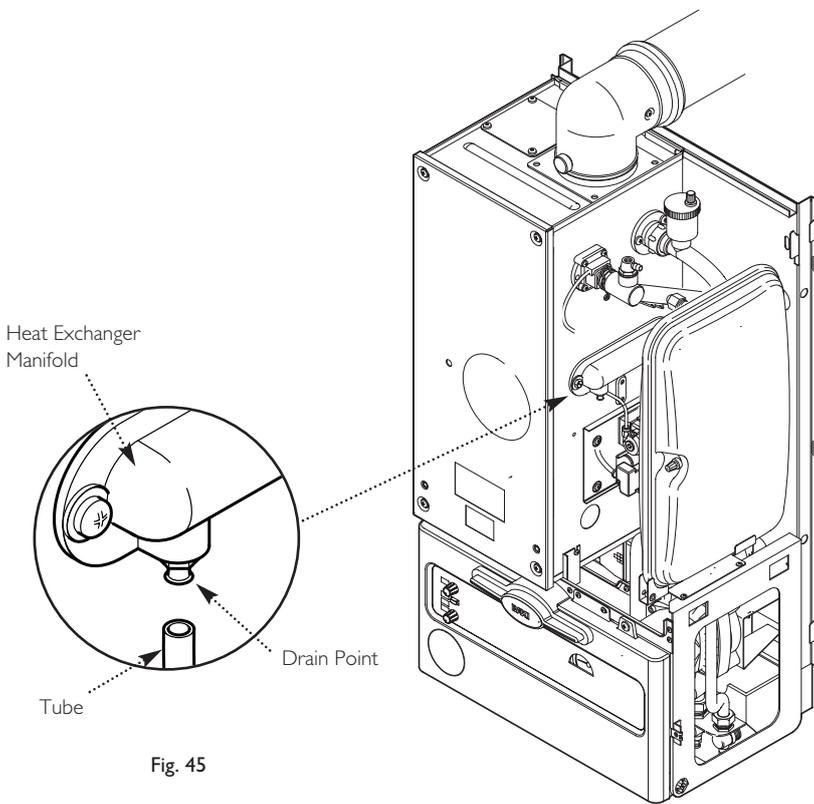

Fig. 45
- b) Heat Exchanger Manifold (Fig. 45)